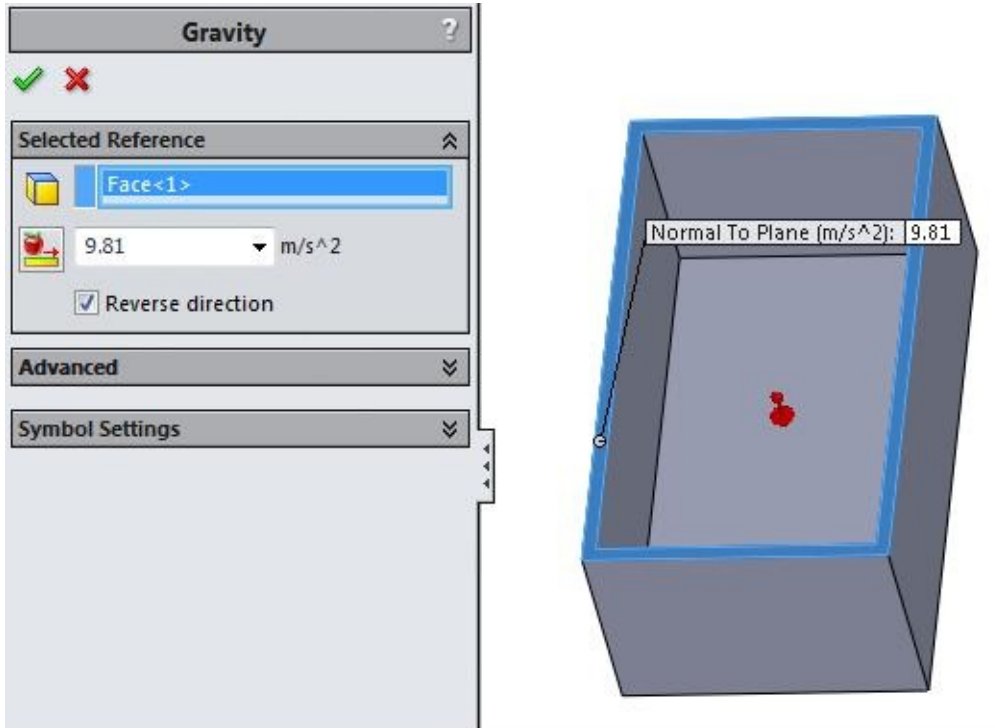

Figure-44. Preview of gravitational force
- Select the plane/face/edge to which define the direction of gravitational force. Preview of the gravitational force will be displayed; refer to Figure-44.